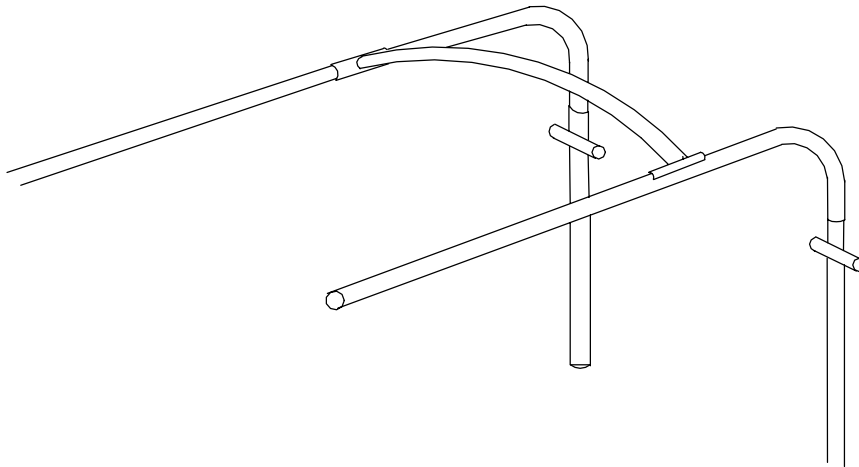

Figure 9. Doorway Support Installation.
12. Install a curved spacer, as shown in Figure 9, over each serving wing door. Place one end of the spacer near the down-turn of the roof arch and lift up the other end against the fabric. Force the roof fabric up until the end of the spacer fits over the next arch. Position the spacers approximately 2 feet in from the doors. If desired, the doors can be held open by folding them up and wedging them between the fabric and the curved spacers.